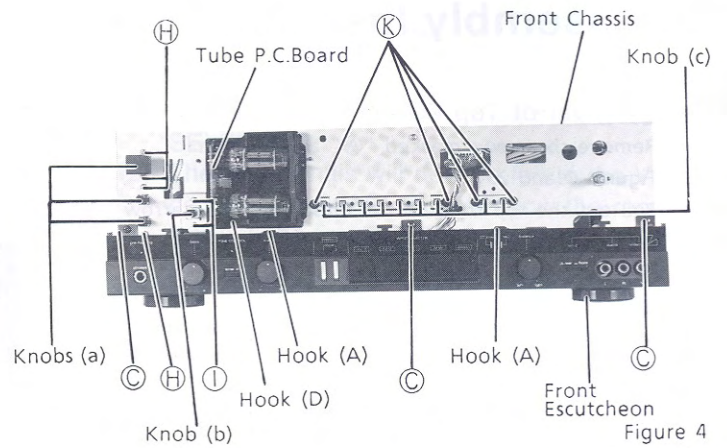

Figure 4
- Remove three knobs (a) and remove four screws marked "⊕" as shown in Figure 4.
- Remove one knob (b) and remove two screws marked "①" as shown in Figure 4.
- Remove one hook (D) as shown in Figure 4.
- Remove four screws marked "Ⓚ" and remove nine knobs (C) as shown in Figure 4.